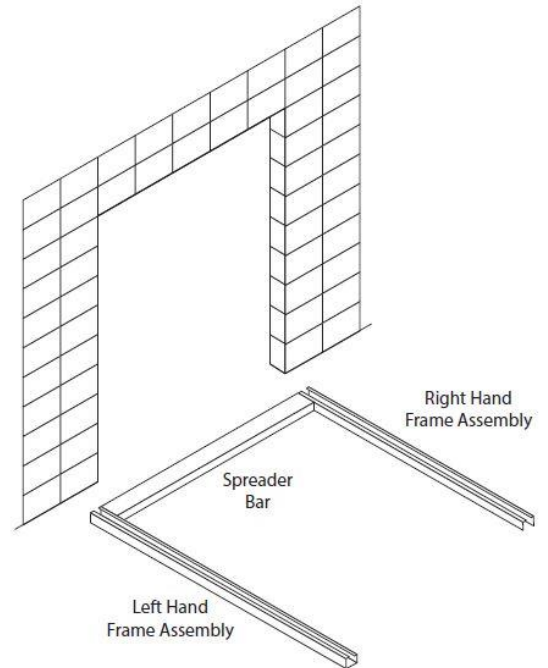

Figure 8
7. Lay the side frames on the floor with the wall mounting side facing down (Figure 8).
8. Ensure the right and left hand side frames are on the correct side of the opening, they will be marked from the factory with a sticker (Figure 8).
9. Place the spreader bar on the floor across the top between the two side frames (Figure 8).